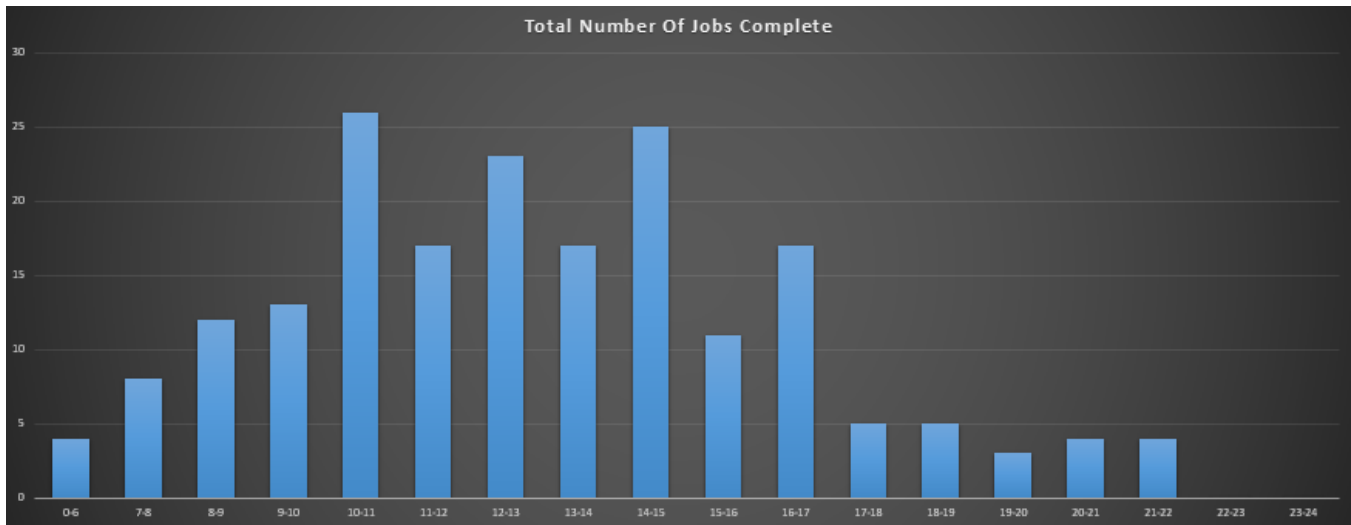

Figure 6.5: **Total Number of Jobs Complete:** Represents the number of jobs completed in a specific time interval.
- Figure 6.5: Total Number of Jobs Complete (Page 9)